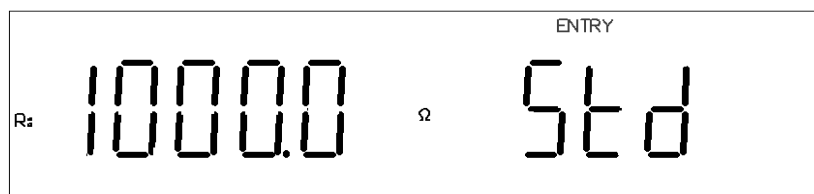

Figure 3-6 Nominal value setup
10. Press **[▶]** key, until **"STD"** is flashing in the second parameter display area, and the current nominal value will be displayed in the primary parameter display area as shown in figure 3-6.